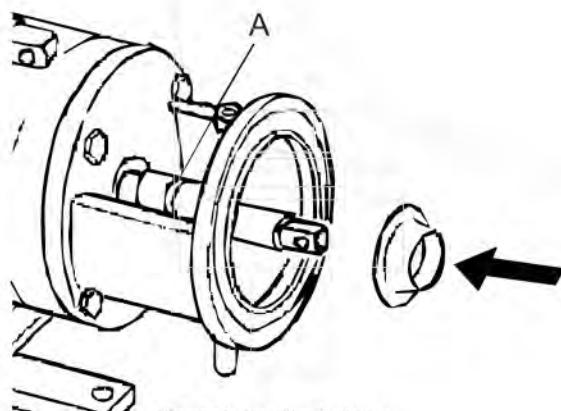

Figure 20 - Installing Deflector
- Use the "A" and "B" dimensions in the Seal Chart to properly locate the drive collar on the stub shaft. See Figure 20. Tighten the set screws to secure in place.